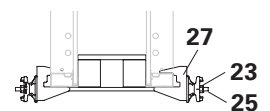

Fig. C7.03a
- Top Tie Bracket-2 AH with Tie Rod (25) and Wingnut Pivot Plate (23), see Fig. C7.03a.